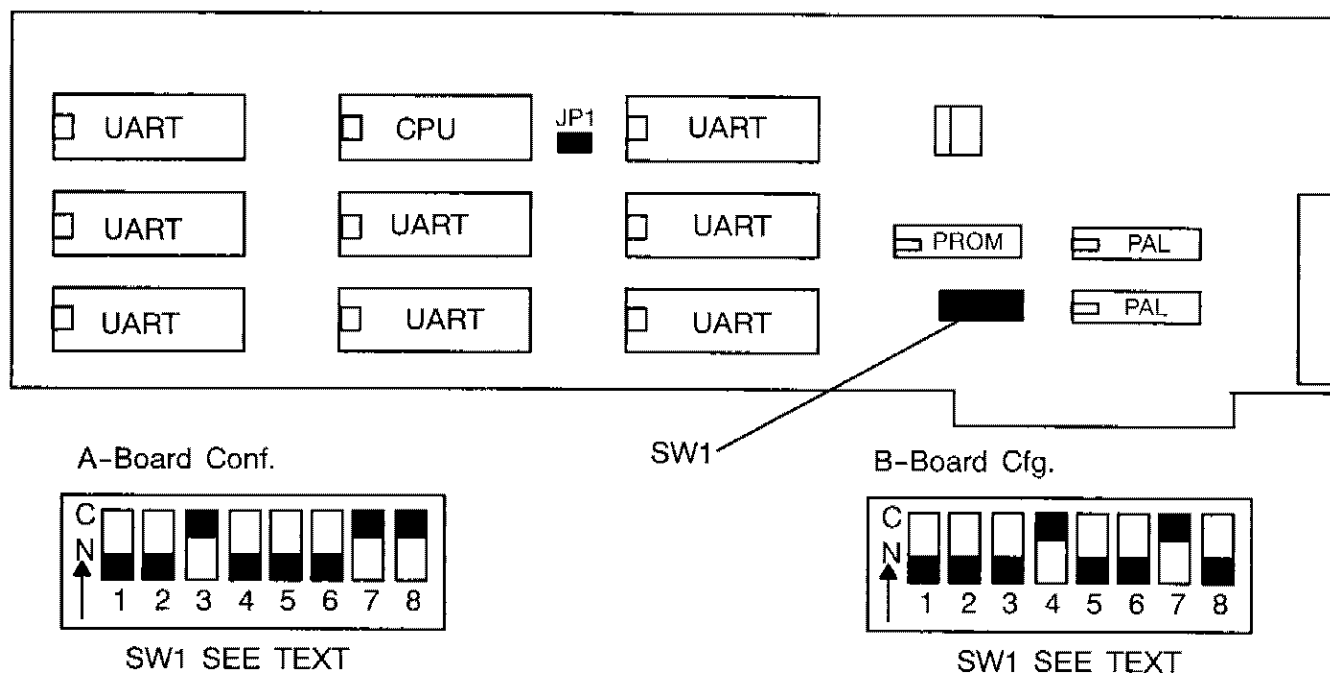

FIGURE 12-15. PLUS-8 BOARD SWITCH SETTINGS
- 2 If using Star Gate PLUS-8 peripheral interface board(s) configure as per instructions in paragraph 12.9.3.3.1, figures 12-15 and 12-16. If using Digi International ClassicBoard 8 no hardware configuration is needed. Software configurations will be completed in step 7 of paragraph 12.9.3.
12.9.3.3.1 Star Gate PLUS-8 Serial Port Board. Set switch 1 on the PLUS-8 Board as shown in figure 12-16. Figure 12-15 shows the location of the switch.